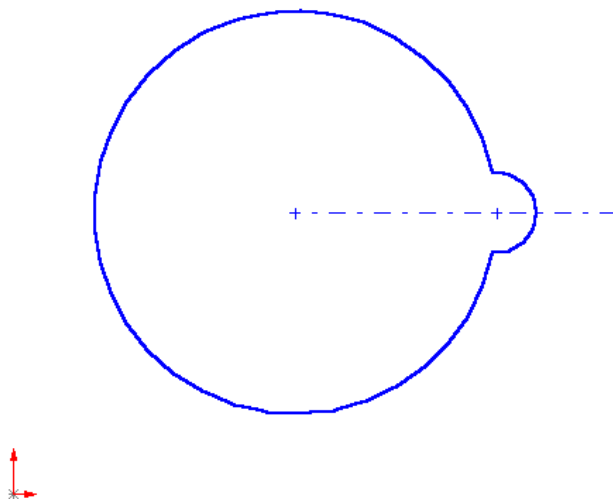

Figure 2-39 Sketch after trimming the unwanted entities
- Draw the outer loop of the sketch of the given model, refer to Figures 2-39 and 2-40.
8. Choose the **Center line** button from the **Sketch Tools** toolbar to draw a horizontal center line from the center of the circle toward the right, see Figure 2-39.
13. Trim the part of the sketch so that the sketch looks similar to the one shown in Figure 2-39.